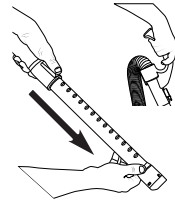

Fig. 2
2. Extend the wand by pushing the button forward and pulling the smaller wand out of the larger wand (Fig.2).